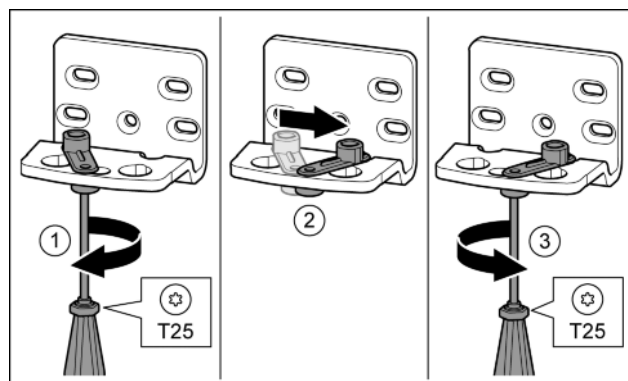

Fig. 16*
- Loosen the screw using a T25 screwdriver.* Fig. 16 (1)
- Lift the door closure aid and turn it 90° to the right in the hole.* Fig. 16 (2)
- Tighten the screw using a T25 screwdriver.* Fig. 16 (3)